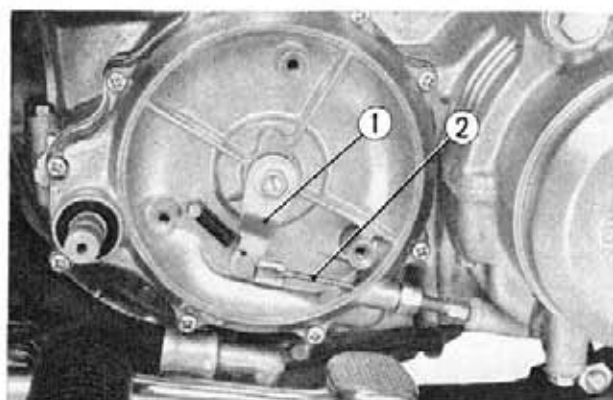

Fig. 2-3 ① Clutch lever
② Dynamo leads connector
③ Stop switch lead
8. Disconnect the clutch cable from the clutch lever. (Fig. 2-3)